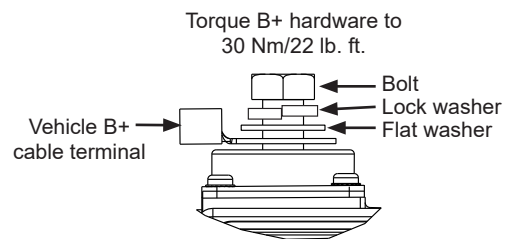

Figure 2: B+ Terminal Hardware Stacking Order
7. Connect vehicle B+ cable to alternator B+ terminal. Install hardware on B+ terminal in stacking order shown in Figure 2. Torque to 30 Nm/22 lb. ft.